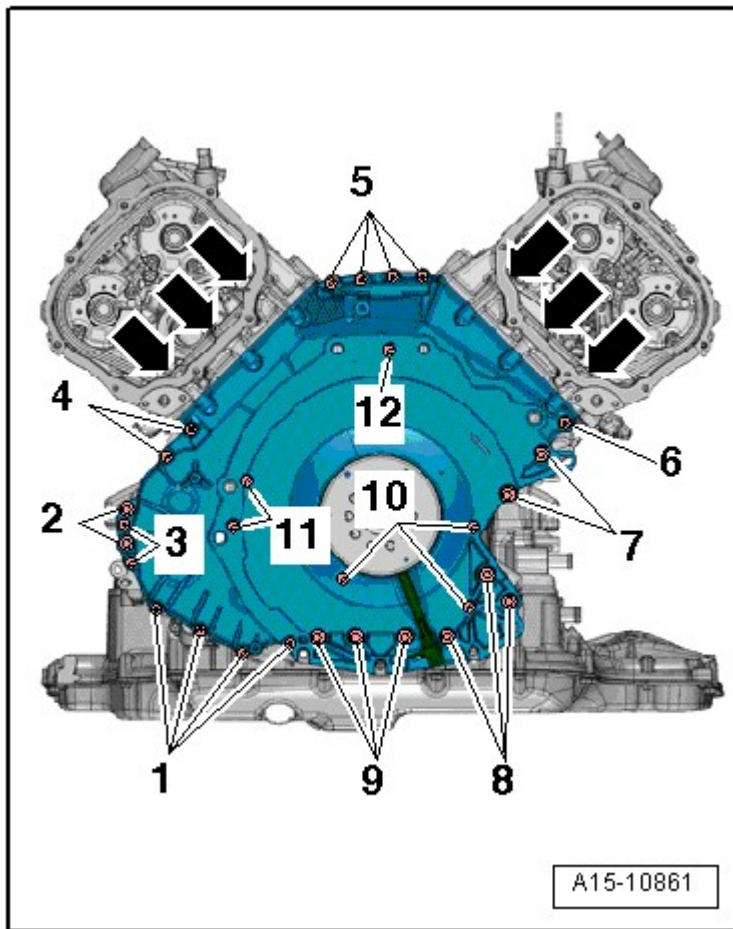

Fig. 17: Identifying Lower Timing Chain Cover Tightening Sequence
- Tightening specification and sequence, refer to **Fig. 17**